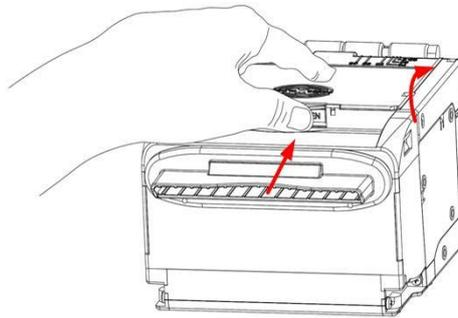

Fig. 5.1-5 Mark sensor cleaning
- 1) Open the top cover as shown in the Fig. 5.1-5;